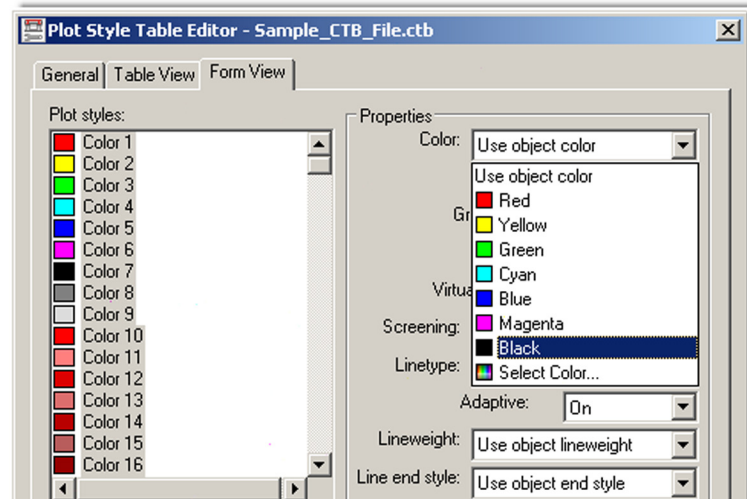

FIGURE 19.7
- Then, as all the colors are highlighted blue, select the very first drop-down choice in Properties, called Color:, and select Black (Figure 19.7). All colors are assigned black ink.